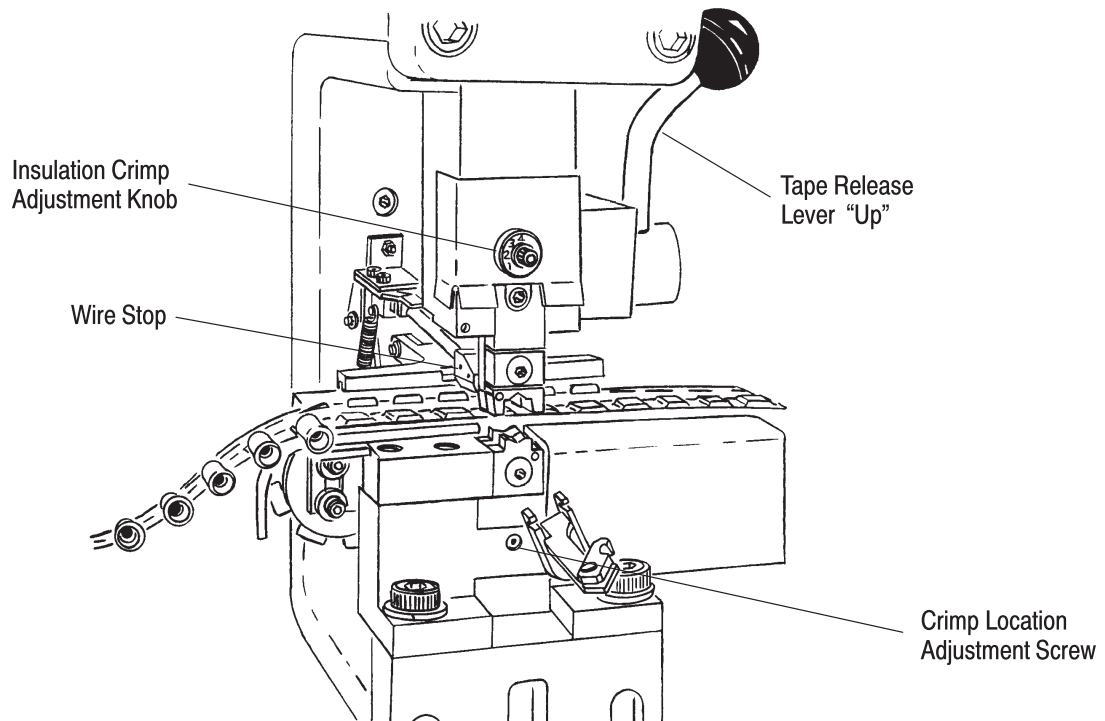

Figure 18
7.2. Insulation Crimp Adjustment (Figure 18)